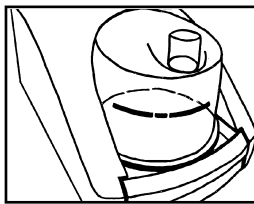

Fig 4
7. When the chamber is fitted correctly, the finger guard will click into place. (See Fig. 4)